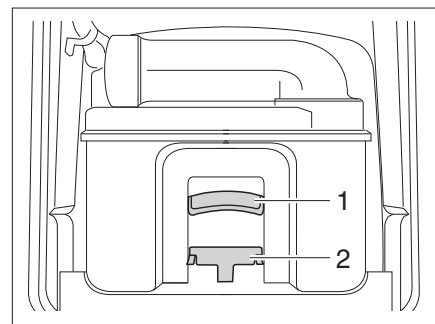

Fig. 154 Thetford cassette
- Pull the retaining clip (Fig. 154,2) forward to unlock the toilet cassette and pull out the cassette at the handle (Fig. 154,1).